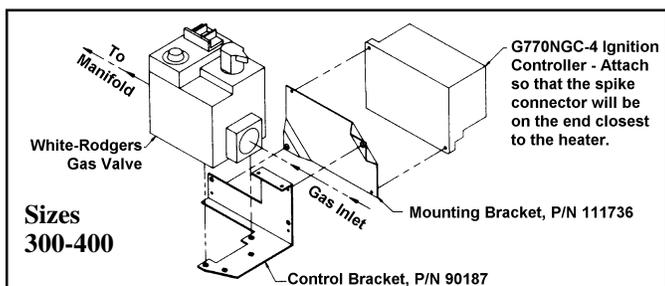

Figure 5 - Assemble Ignition Controller and Bracket; Attach to the already-installed White-Rodgers Gas Valve
2.) **Sub-Assemble Brackets and Ignition Controller** (See Figure 5) –
3.) **Attach Sub-Assembly to Valve** (See Figure 5) – Position the ignition controller/bracket assembly so that the bracket extends underneath the valve.